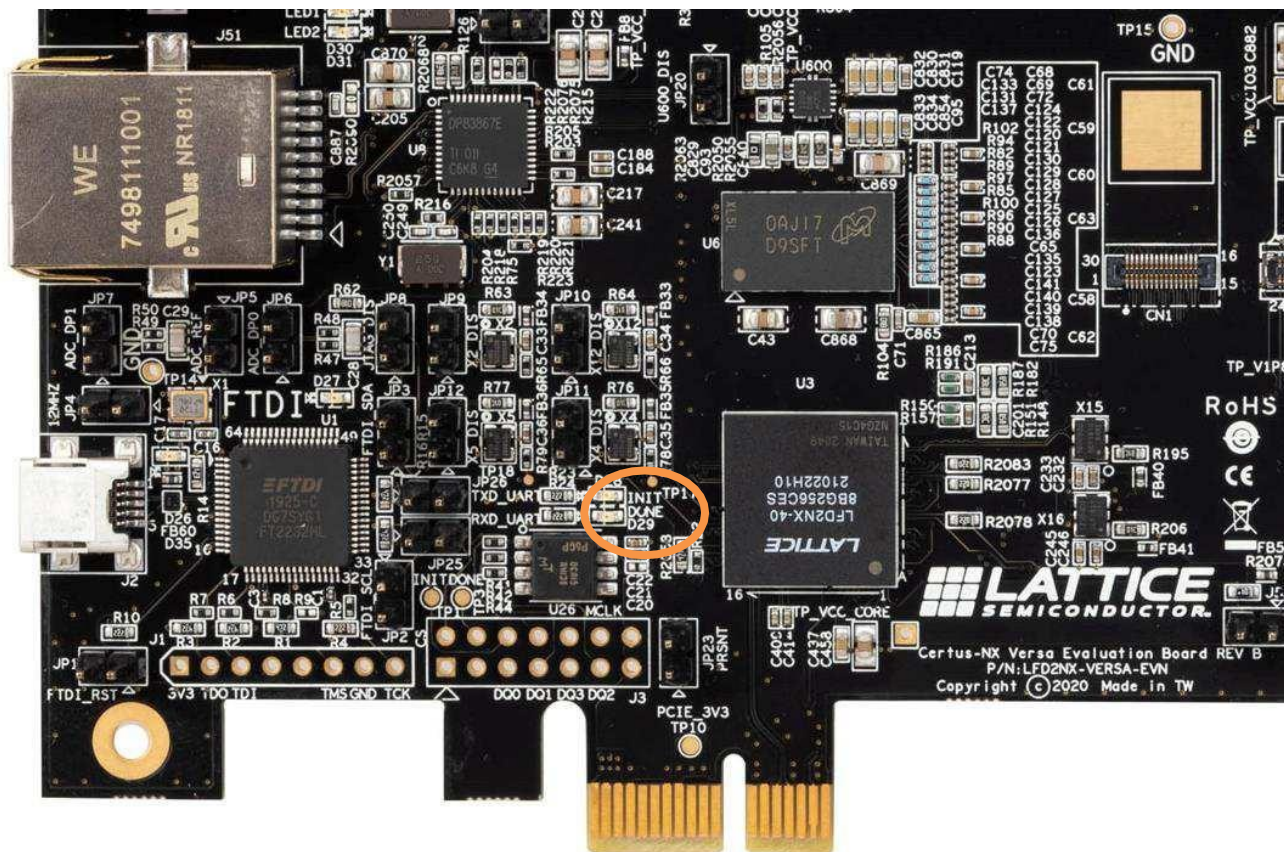

Figure 3.15. Certus-NX Programming Done LED
- For Certus NX devices, refer to Figure 3.15.
For Certus-NX devices, the programming done LED lights up in green if configuration is successful. The LED is located at D29 on the board, as indicated in Figure 3.15.